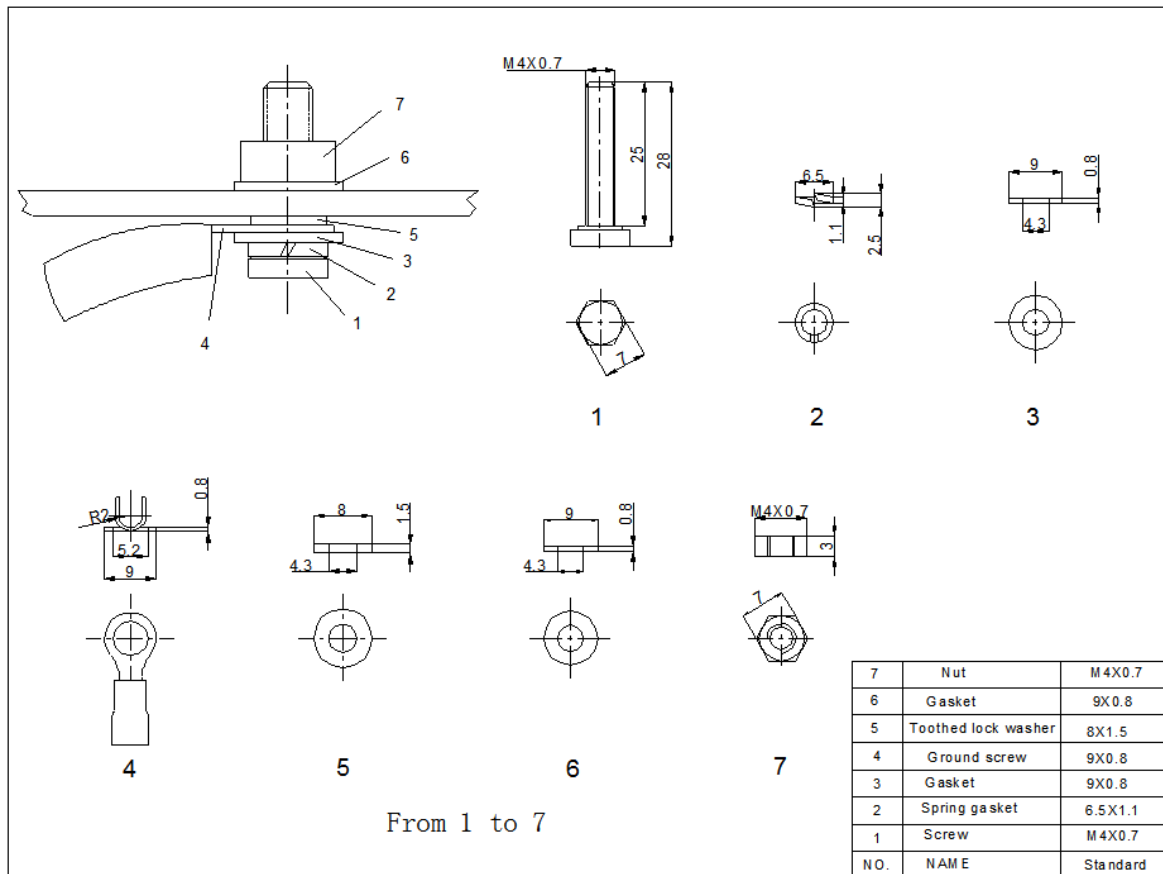

Figure 4.Example of acceptable ground connection
- ☆ An example of acceptable ground connection using a screw, nut (hardware not provided) and washer retaining a ground screw is shown in figure 4. The size of the grounding cable should be decided by the professional person who responsible for electrical installation. In a connection of this type, the hardware (such as a toothed locked washer / star washer) must score the frame surface to make positive electrical contact with the frame. The ground wire must be considered within the requirement of local and regulation at the site of installation.